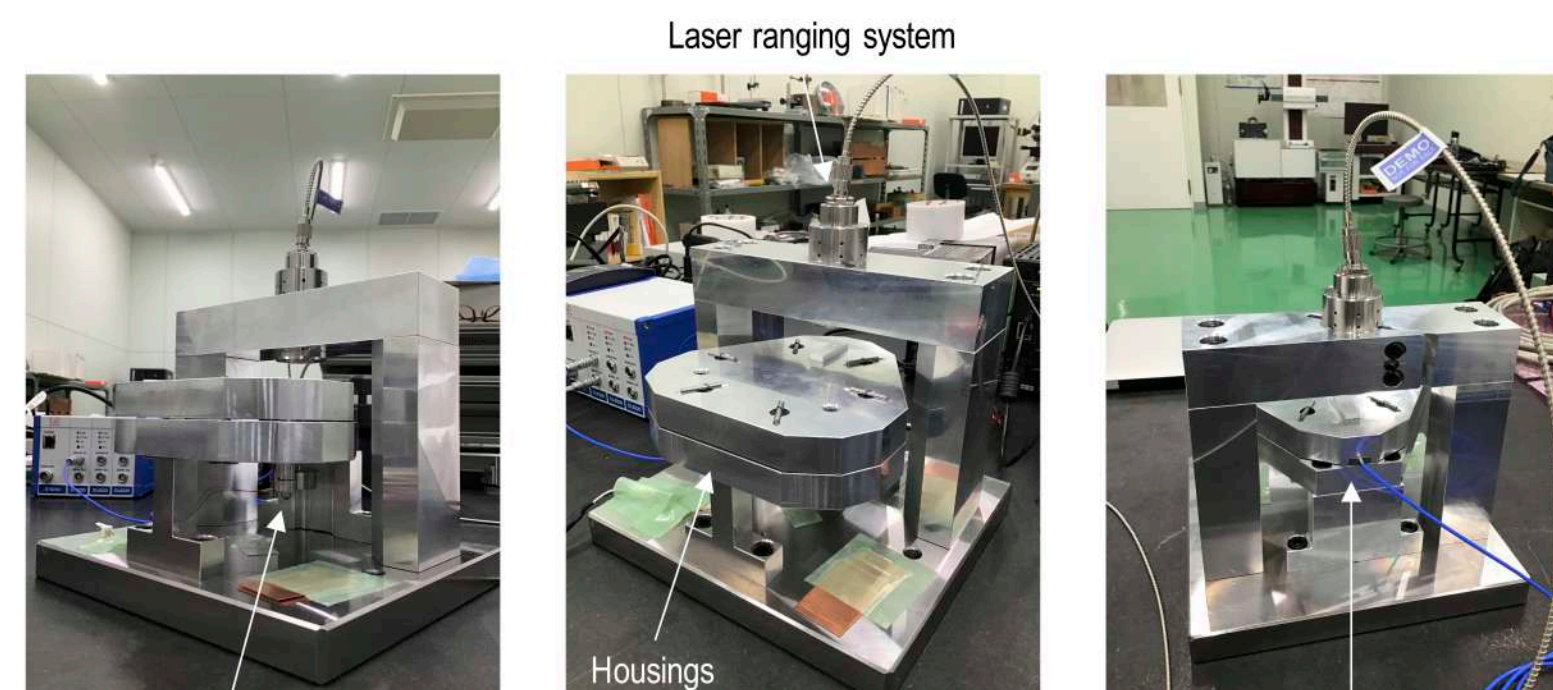

Fig. 11 Measurement setup (1 axis)
- Actuator and gap sensor operation test (1 axis, fig.11).